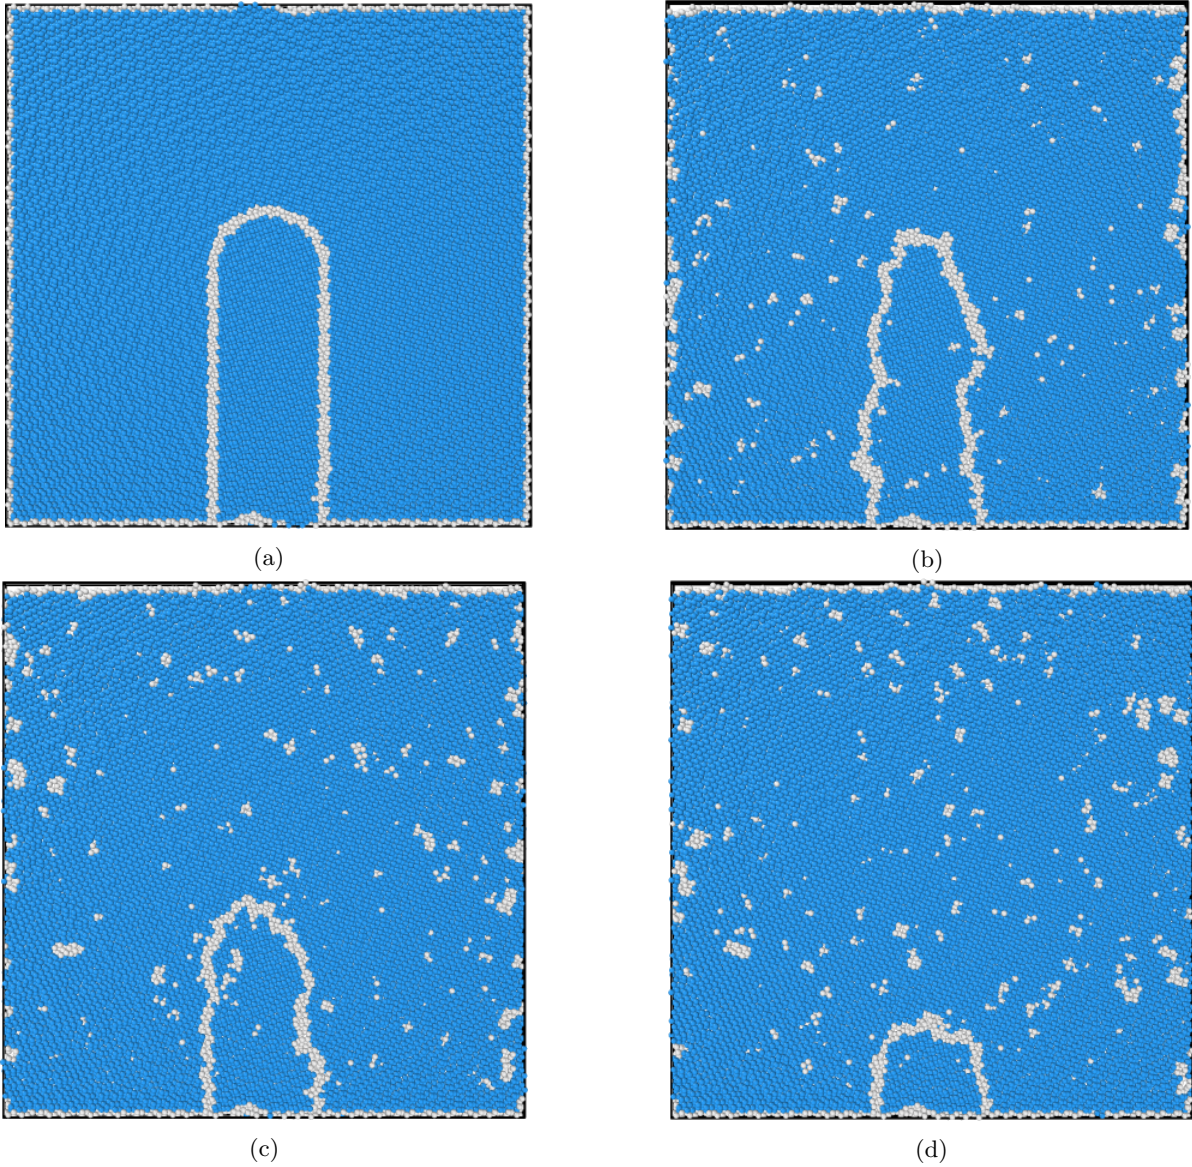

Figure 1: Grain growth simulation at 900 K. a) $t = 0$ b) $t = 100$ ps c) $t = 250$ ps d) $t = 600$ ps
- Figure 1 shows a simulation at various time steps throughout the grain growth process. Cell dimensions follow those listed in the planned methods section. Boundaries are periodic in the x and z-directions and shrink wrapped in the y-direction.